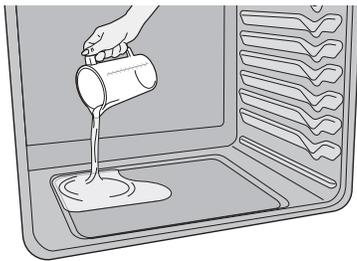

Figure 25: Add 1 cup of tap water
3. Pour 1 cup of tap water onto the oven bottom. (Figure 25) Close oven door.